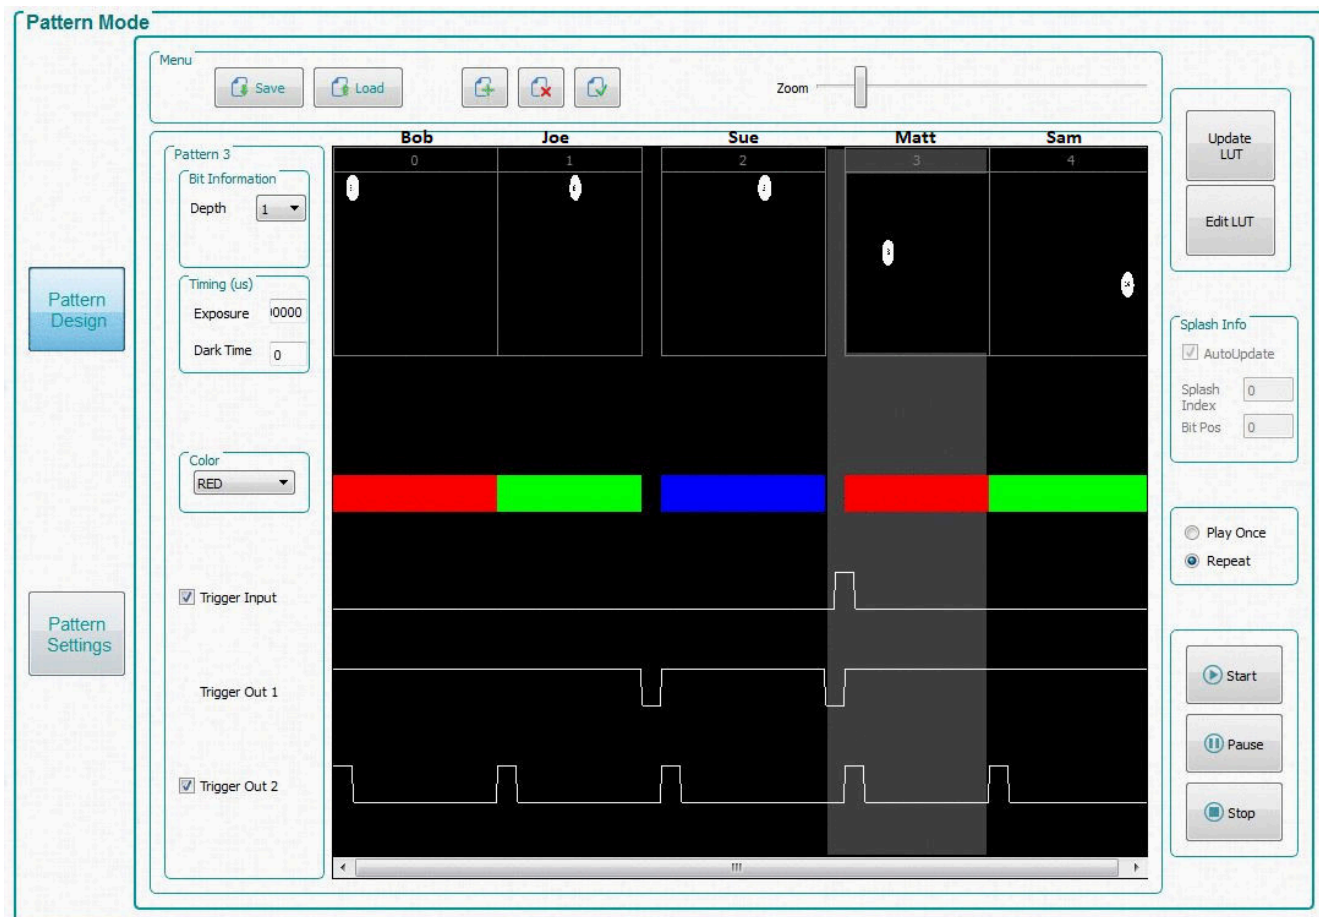
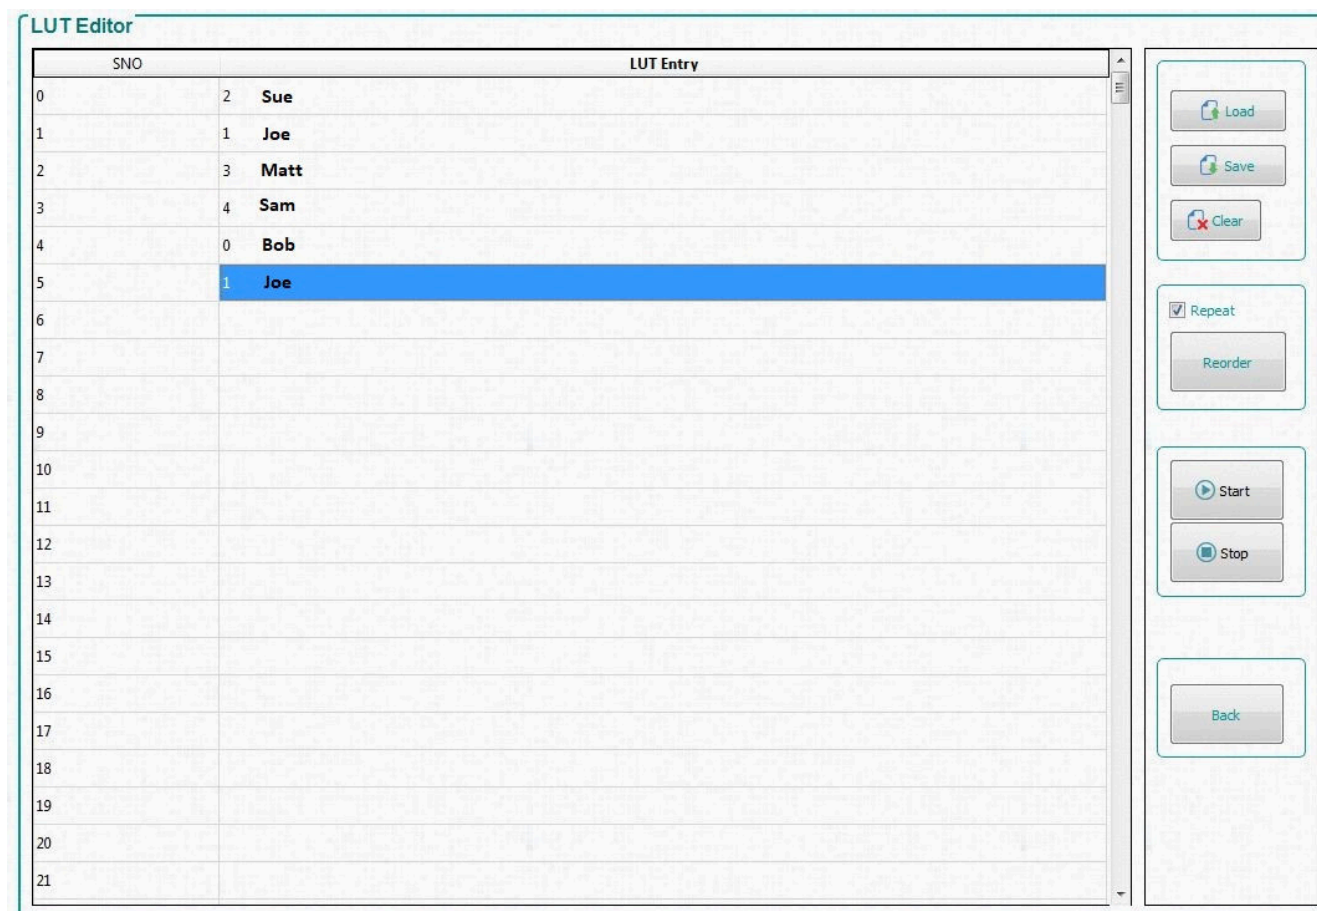
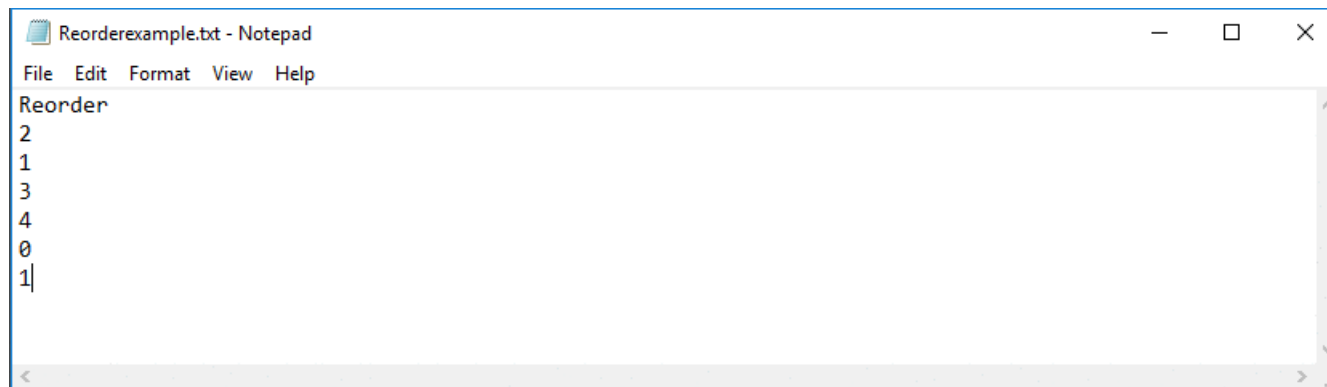

Figure 3-11. Pattern Design Example
Figure 3-12. LUT Editor Panel
Figure 3-13. Reorder Example
The *LUT Editor* panel is shown in Figure 3-12 where the column labeled “SNO” (i.e. Sequence Number) represents the pattern display slot numbers according to the order set (after clicking *Update LUT*) in the *Pattern Design* tab as shown in Figure 3-11. The user can then reorder those patterns by either manually entering the pattern number of their choice into a row in the “LUT entry” column or loading a text file beginning with the word “Reorder” followed by the desired numerical pattern slots as shown in Figure 3-13.
1. By following the steps similar to Section 3.6.2, load five patterns in *Pattern On-The-Fly-Mode* as shown in Figure 3-11.
7. Click the *Edit LUT* button to open the *LUT Editor* panel as shown in Figure 3-12. This panel initially opens with an empty "LUT Entry" column.
8. To reorder the patterns, enter a "2" in "LUT Entry" row 1, and subsequently a "1", "3", "4", "0", and "1" as shown in Figure 3-12.
13. Browse to wherever the text file was saved, and open the file in a text editor program as shown in Figure 3-13.
When using the GUI interface, each pattern carries several items of information corresponding to the slot that it was inserted in the original LUT order. Therefore, when reordering a pattern to a different slot in the LUT, it retains its original assigned bit information, timing (exposure and dark time), LED color, and trigger information and NOT the information that is located in its reassigned slot in the LUT. For example, if pattern 3 contains a trigger input to begin the user's execution in Figure 3-11 and is reordered to slot 2 as shown in Figure 3-12, the trigger input is now located at slot 3 in the LUT rather than slot 0.
It may be helpful to understand the *Edit LUT* feature by giving names to the patterns, as shown above the patterns in Figure 3-11, and treating them as the batting order in a baseball game. This way, it is easier to picture the distinction between the slot order numbers in the "SNO" column (the new batting order) and the patterns that are inserted into the "LUT Entry" column (the batters). For example, Bob retains his batting statistics independent of his batting position (i.e. bit information, timing, color, trigger), so if he originally bats first (slot 0 in Figure 3-11) but is moved to fifth in the new batting order (reorder LUT entry 4 in Figure 3-12) he retains all of his properties. The only difference is that now he does not bat (i.e. is not displayed) until after the four batters (patterns) preceding him (Sue, Joe, Matt, and Sam). Notice also that in our example Joe bats twice in the new batting order (SNO 2 and 5). There is only one Joe, who bats twice in the new batting order. In the same way, a pattern in the original pattern list can be displayed in many positions in the reordered display LUT, without adding or removing any patterns in DLPC900 memory. Therefore in terms of the system memory, it is only changed when using the *Update LUT* feature but never when using the *Edit LUT* (Reorder) feature in the Figure 3-11.